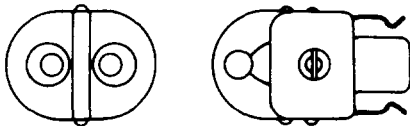

Fig. 15—471A Jack
2.15 471A: This polarized jack (Fig. 15) is used with the 346A plug.